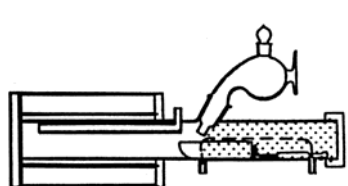
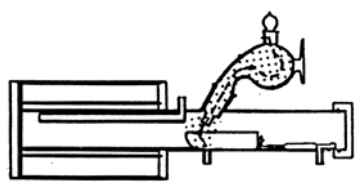
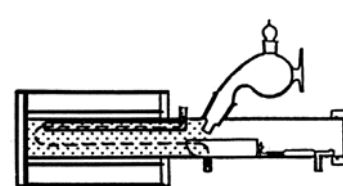

Fig.1 (Back purge)
Fig.2 (Sampler purge)
Fig.3 (Cell purge)
- Back Purge : Set up time to purge Heating unit by carrier gas from the sample inlet to the boat outlet. (Normal 180s. see Fig.1)
- Cell Purge : Set up time to purge by carrier gas from the sample inlet of Heating unit to the titration flask. (Normal 120s. see Fig. 3)
- Sample Purge : Set up time to purge by carrier gas in sampler. (Normal 180s. see Fig. 2)
Set up the sample in Eggplant sampler to the sample inlet, and start from Back purge (Fig.1), Sampler purge (Fig.2) and then, Cell purge (Fig.3). When the drift is stable with carrier gas flowing through, start measurement.
Start Back purge (Fig.1), then Cell purge (Fig.3), and start measurement when the drift is stable with carrier gas flowing.